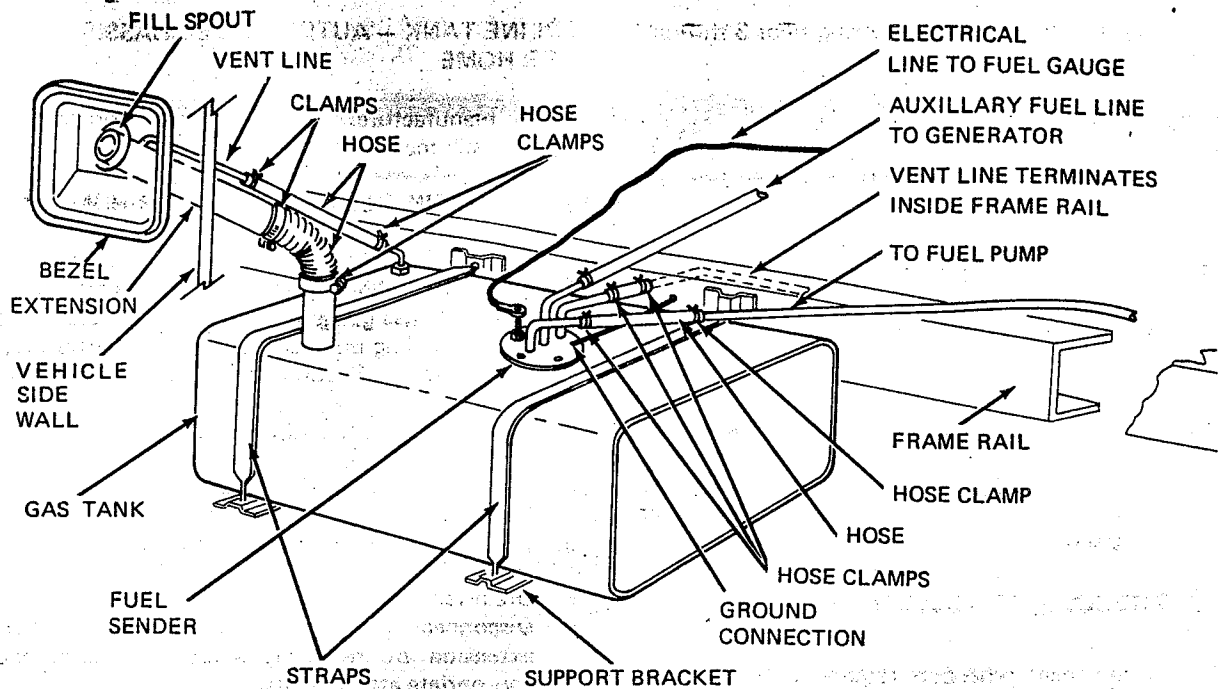

FIGURE 7-3 Typical gasoline tank assembly
Refer to Figure 7-3.
11. Cut opening and install fuel fill bezel or locking compartment door. Refer to Figure 7-3
13. Tank venting — refer to Figure 7-3. When fill spout is provided with vent line attachment, run rubber hose from fill to tank vent or sender vent. When tank is not equipped with separate vent, run vent hose from sender vent to frame and into inside of frame rail. Secure with mounting clamp.